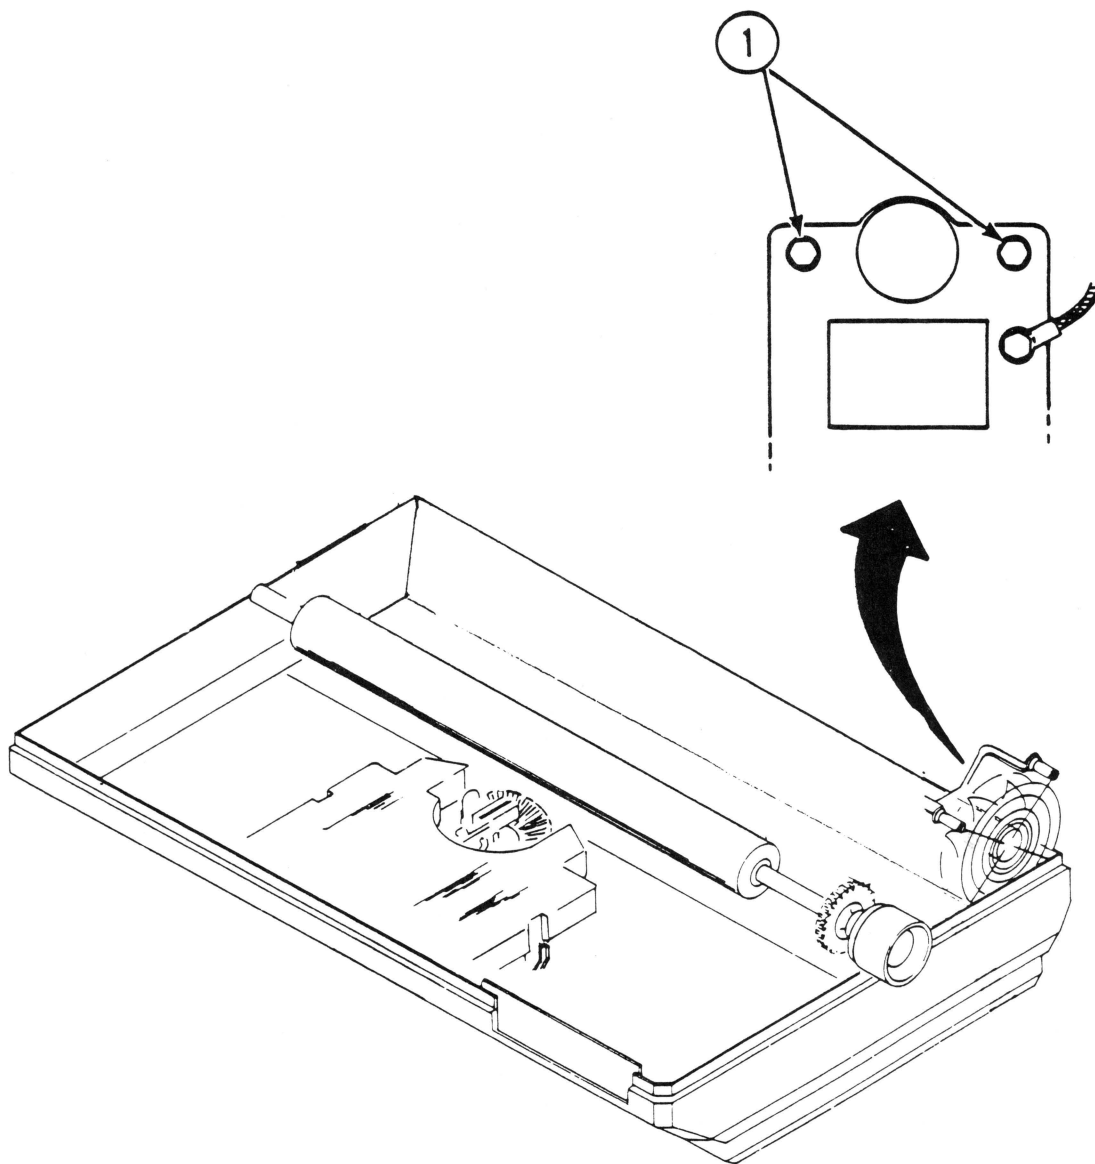

FIGURE 3
3. Using a 1/4 inch nut driver and a 1/4 inch wrench, remove the two screws that hold the fan to its mounting bracket (see Figure 3, #1).